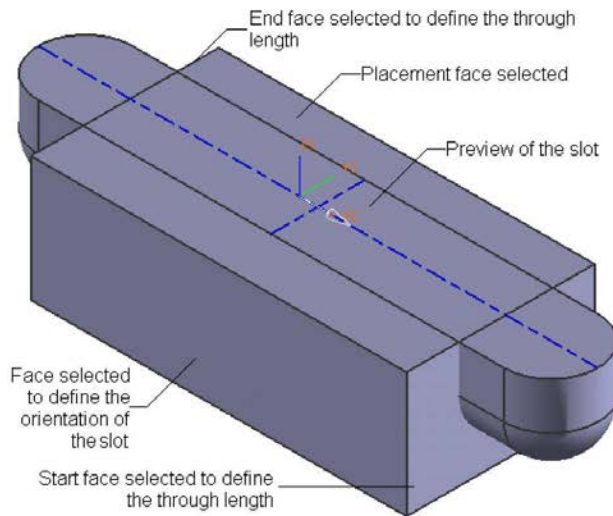

Figure 6-29 Objects selected to create a through-slot feature
*If you have selected the **Through Slot** check box from the **Slot** dialog box, you need to define the start and end faces for defining the length value. The faces selected to define the through-width should always be normal to the placement face. Select the two faces that are parallel to each other and normal to the placement face. After selecting the parallel faces, the **Ball Slot** dialog box will be displayed. Next, specify the slot parameters in their respective edit boxes. In this case, the **Length** edit box will not be available. Figure 6-29 shows the faces selected to define the length of the through-slot.*